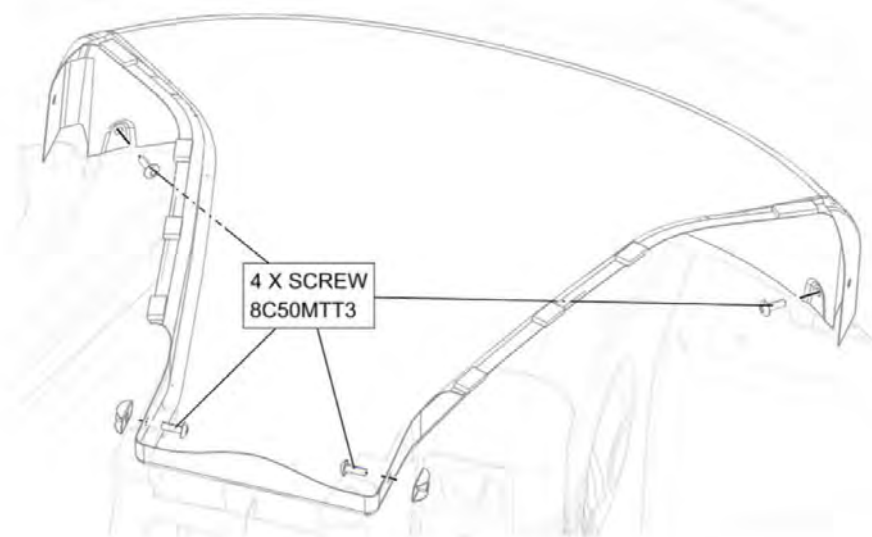

FIGURE 9-16
5. Install center spine using four screws as shown in Figure 9-16, torque screws to 13 in-lbs.